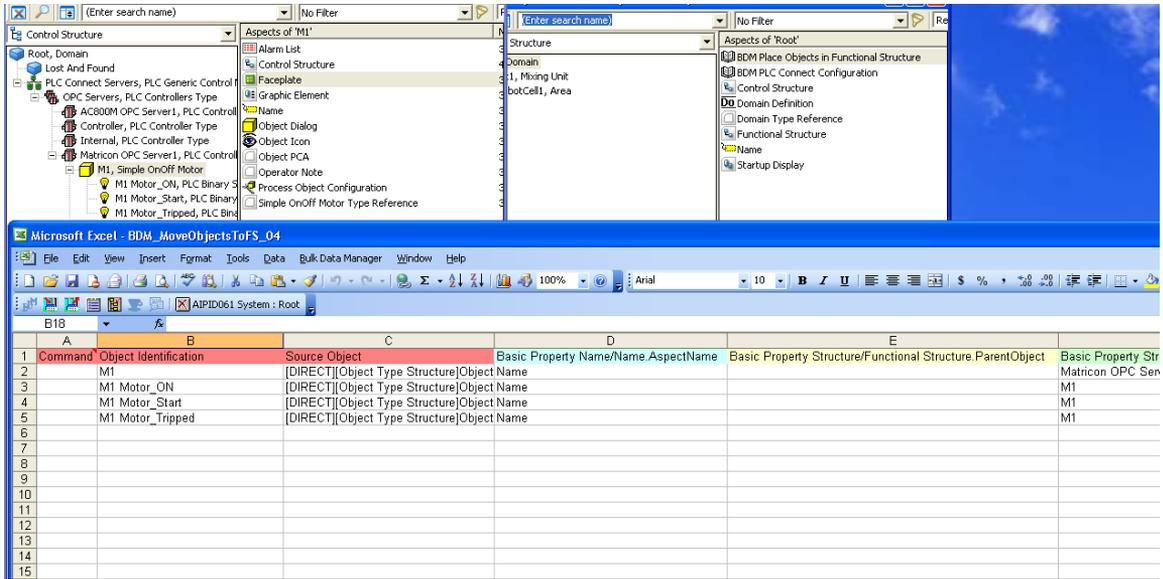

Figure 34. The Bulk Data Manager
8. Select one of the OPC servers objects (e.g. Matricon OPC Server) in the Control Structure and drop them in the Bulk Data Manager. See Figure 34 below.